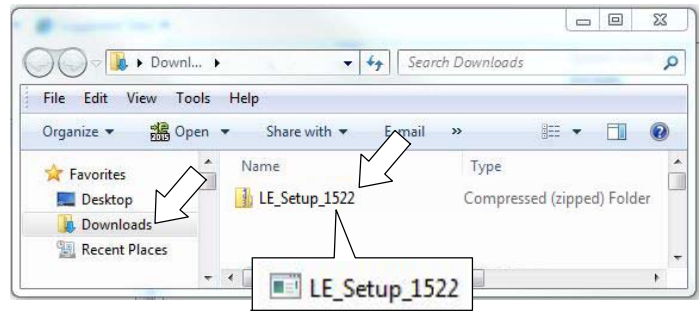

Fig. 17
2. Once logged on to the “My Tennant” website, click on the “**Service Application Software**” link under the “Product Support & Solution” section as shown below (Figure 17).